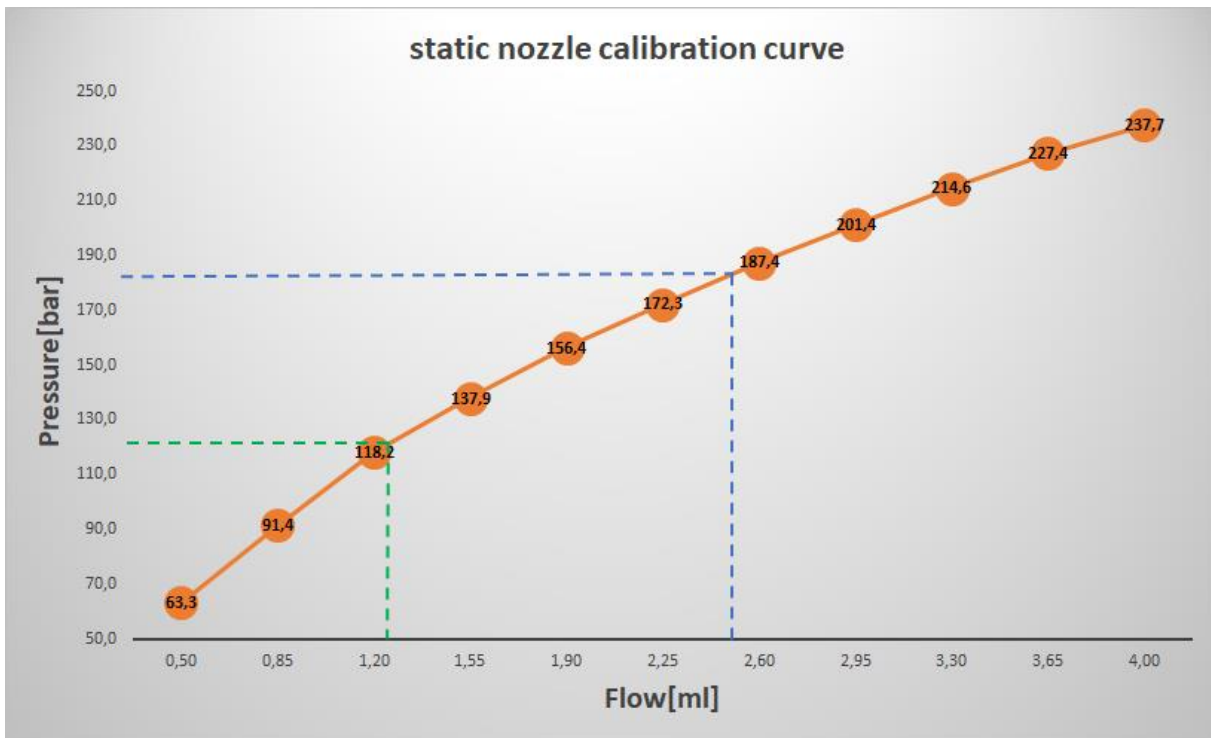

Figure 15: static nozzle calibration curve – 2,5ml/185bar – 1,25ml/122bar
As explained in chapter 2.421 the value called num PrePressure is mandatory to use in beaddata definition. With that value the user can choose the possibility to use the nozzle calibration curve (PrePressure value =0). Table 17 and Figure 15 show some examples for value num prepressure in the beaddata and the result which pressure will be adjusted depending on different influencing factors (**example for flow setpoint in beaddata: 2,5ml**)
E.g. when the system calculated an upcoming flow of 2,5ml/s for the next seam, the doser will adjust a prepressure of 185bars about 300ms (see reference Table 6 int_dp_data.switch_time) before the seam starts automatically (Figure 15: blue dotted line) when the prepressure value 0 is used in the beaddata (related to examples in Table 17). When the system calculated an upcoming flow of 1,25ml/s for the next seam will
adjust a prepressure of 122bars about 300ms before the seam starts (Figure 15: green dotted line).
For the next application cycle the new dynamic recalculated curve will be activated. Setting up the new prepressure values for the next seams the same approach as explained in chapter 3.3.3 and in Figure 15 will be used.